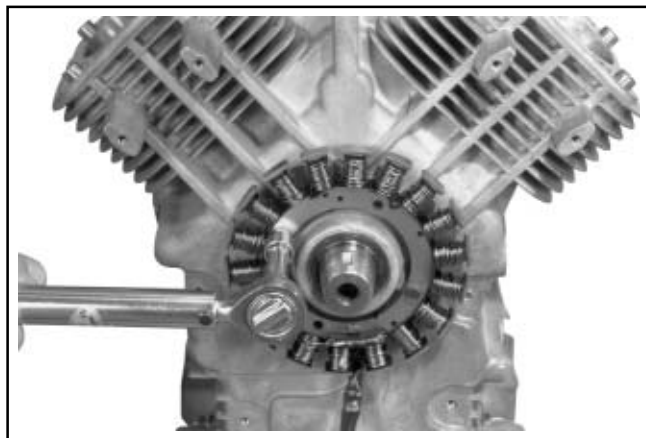

Figure 9-60. Removing Stator.
2. Remove the two hex. head screws and stator. See Figure 9-60. Note the routing of the stator lead in the channel.